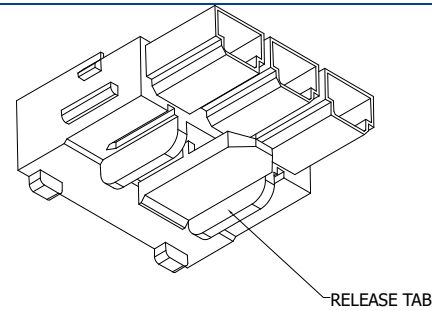
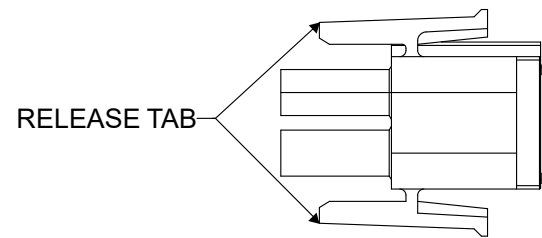

FIGURE 47 - Line Voltage Connector (3 Pin)
FIGURE 48 - Low Voltage Connector (6 Pin)
- 3) Disconnect low voltage (6 pin) & line voltage (3 pin) harness connectors by pressing on the release tabs and using a downward motion (**FIGURE 47 - Line Voltage Connector (3 Pin)** & **FIGURE 48 - Low Voltage Connector (6 Pin)**).